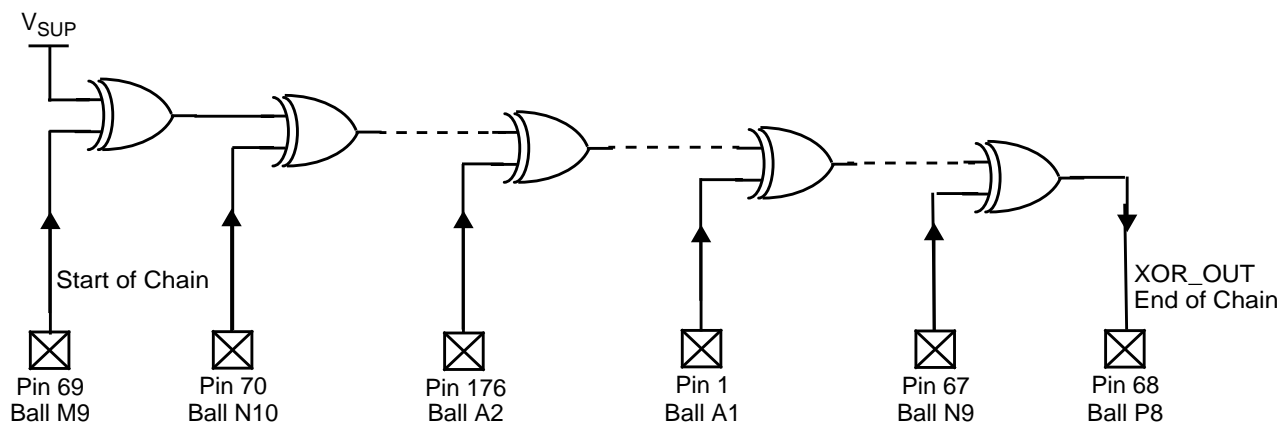

Figure 10. XOR-Tree Chain (Simplified Diagram)
In XOR-Tree mode, all PC87591L-N05 device pins are configured as inputs, except the last pin in the tree, which is the XOR_OUT output. The buffer type of the input pins participating in the XOR-Tree is IN_T (Input, TTL compatible), regardless of the buffer type of these pins in normal device operation mode (see Section 2.2 on page 38). The input pins are chained through XOR gates, as shown in Figure 10. The power supply pins (AV_{CC} , V_{CC} , V_{DD} , V_{CORF} , V_{BAT} , AGND, GND), Analog pins (AD9-0, DA3-0) and Crystal Oscillator pins (32KX1, 32KX2) are excluded from the XOR tree.
In the 176-pin LQFP package, the XOR-Tree chain starts with pin 69 (see Figure 10), continues with pins 70 (the next pin in ascending order) through 176, goes to pin 1, and ends with XOR_OUT pin (68). In the 176-pin FBGA package, the XOR-Tree chain starts with ball M9 (see Figure 10) and ends with ball P8. For a detailed description of the XOR-Tree chain for both packages, see Table 11 on page 66. In the table, the chain direction is from top to bottom, and from left to right.